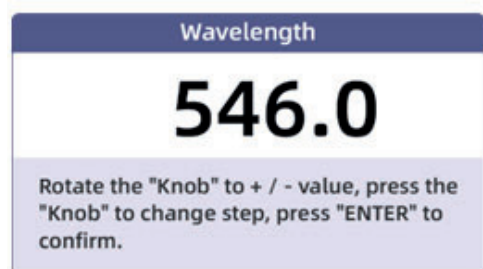

Fig. 6-2 Set the measurement wavelength
1. Press the knob to pop up the setting interface (Figure 6-2), rotate the knob to change the measurement wavelength, press “**ENTER**” to confirm;